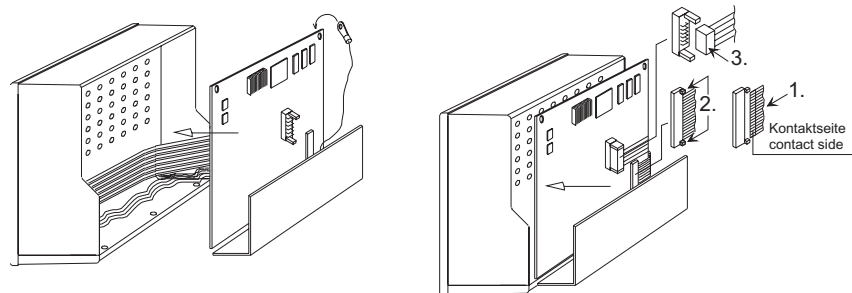

Fig 8-11: Connecting main pcb
15. Place main pcb and connecting panel carefully inside the frame. Adjust position of pcb and flat cables and reconnect flat cables (fig. 8-11).